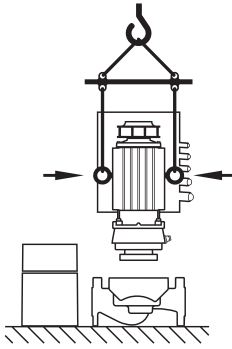

Fig. 9: Transporting the motor
- **If necessary, for example during repairs, the transport eyes can be moved from the motor flange to the motor housing (see e.g. Fig. 9). Before installing the transport eyes on the motor housing, unscrew the spacers from the transport eye openings (Fig. 7, Item 20b) (see chapter 10.2.1 "Replacing the mechanical seal" on page 110).**
- If the transport eyes will be or have been moved from the motor flange and installed on the motor housing, they are only approved for carrying or transporting the motor impeller unit (Fig. 9) and not for transport of the whole pump or for separation of the motor impeller unit from the pump housing.